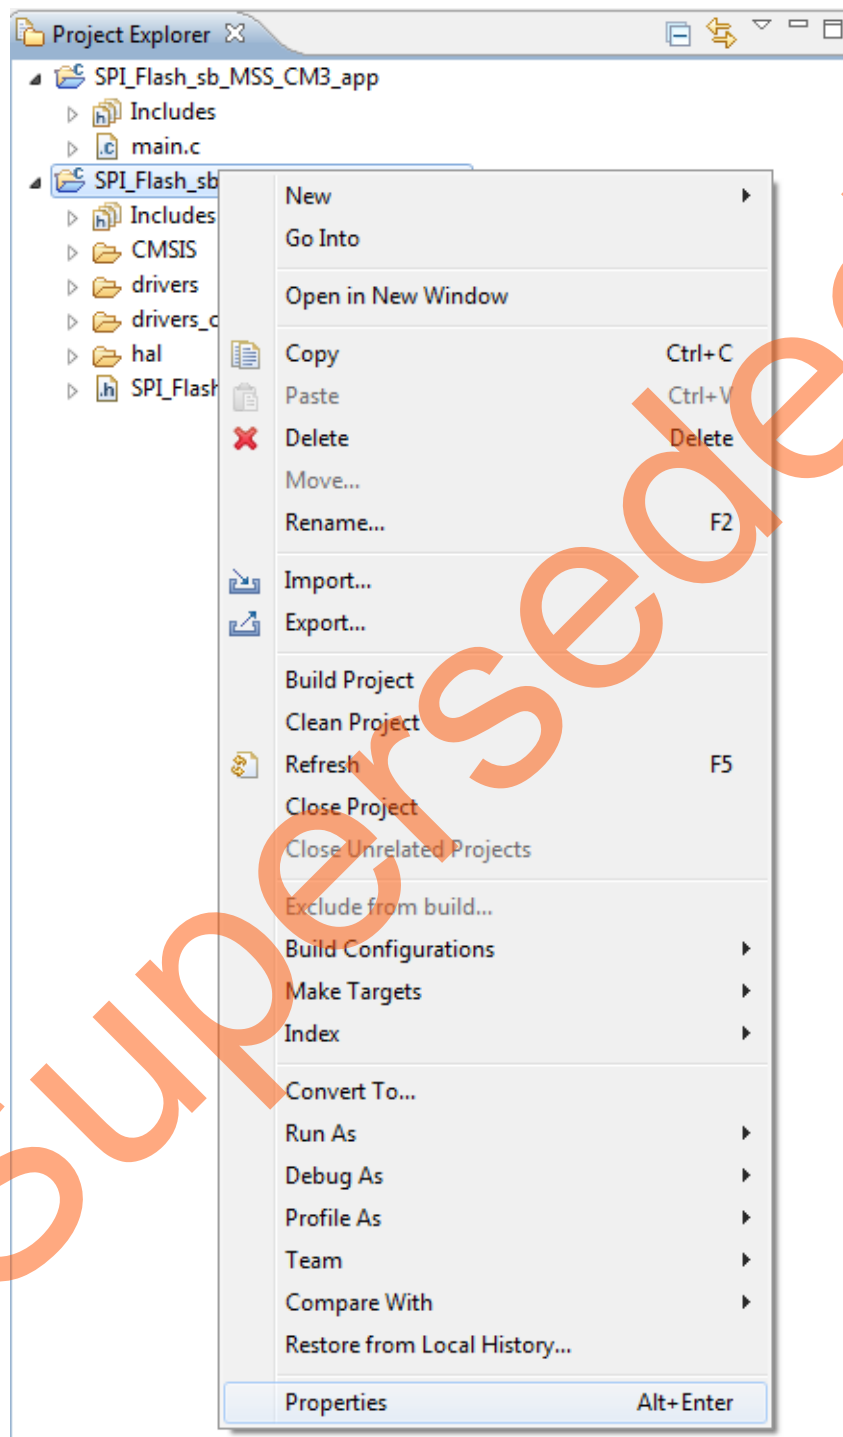

Figure 23 • Project Explorer window - Properties
7. Right-click the **SPI_Flash_sb_MSS_CM3_hw_platform** in Project Explorer window of SoftConsole project and select **Properties** as shown in Figure 23.